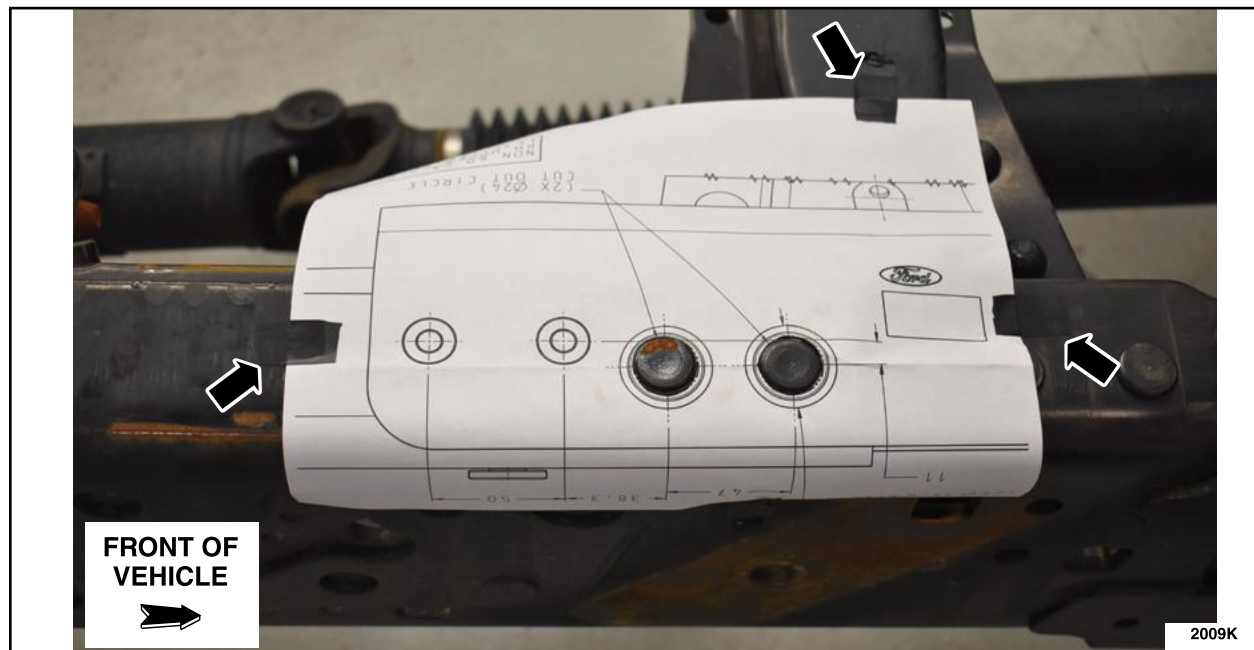

FIGURE 4
4. Place the template over the rivet heads, identified in Step 1, and secure the template to the frame with tape. See Figure 4.